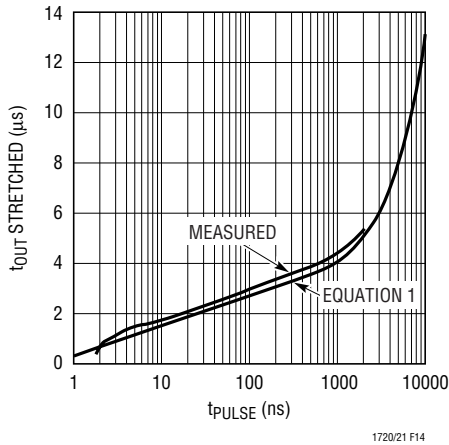

Figure 14. Log Pulse Stretcher Output Pulse vs Input Pulse
The circuit topology itself is extremely fast, limited theoretically only by the speed of the diode, the capture time constant τ1 and the pulse source impedance. Figure 14 shows results achieved with the implementation shown, compared to a plot of equation (1). The low end is limited by the delivery time of the upstream comparators. As the input pulse width is increased, the log function is constrained by the asymptotic RC response but, rather than becoming clamped, becomes time linear. Thus, for very long input pulses the third term of equation (1) dominates and the circuit becomes a 3μs pulse stretcher.
easily measured  $1.70\mu\text{s}$  output pulses. A 12 foot cable length difference will result in  $\sim 18.4\text{ns}$  delay and  $2.07\mu\text{s}$  output pulses. The difference in the two output pulse widths is the per-octave response of your circuit (see equation (3)). Shorter cable length differences can be used to get a plot of circuit performance down to  $1.5\text{ns}$  (if any), which can then later be used as a lookup reference when you have moved from quantifying the circuit to using the circuit. (Note there is a slight aberration in performance below  $10\text{ns}$ . See Figure 14.) As a final check, feed the circuit with identical cable lengths and check that it is not producing any output pulses.
This circuit has an ultimate sensitivity of better than 14mV with 5ns to 10ns input pulses. It can even detect an avalanche generated test pulse of just 1ns duration with sensitivity better than 100mV.6 It can detect short events better than the coincidence detector of Figure 14 because the one-shot is configured to catch just 100mV of upward movement from C1's  $V_{OL}$ , whereas the coincidence detector's 3ns specification is based on a full, legitimate logic high, without the help of a regenerative one-shot.